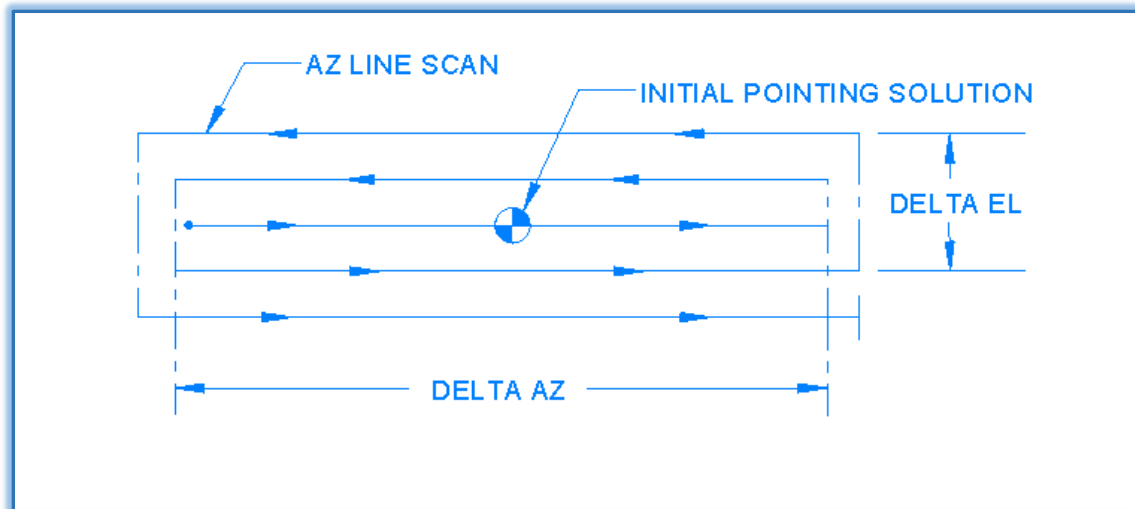

Figure 7.4.6 - AAQ Acquisition Scan
The AAQ usually acquires the Target Satellite by executing a single Azimuth (AZ) Line Scan (Azimuth angle varied while the Elevation angle is held constant) centered on the best current Ped-AZ / Ped-EL pointing solution. If this initial AZ Line Scan is not successful, then a raster scan is performed automatically. This raster consists of several back-and-forth Azimuth line scans at different Elevation angles. The AZ width, EL height, and EL step size of this scan volume are all based on user settable configuration parameters. The AAQ acquisition scan is illustrated in Figure 7.4.6.